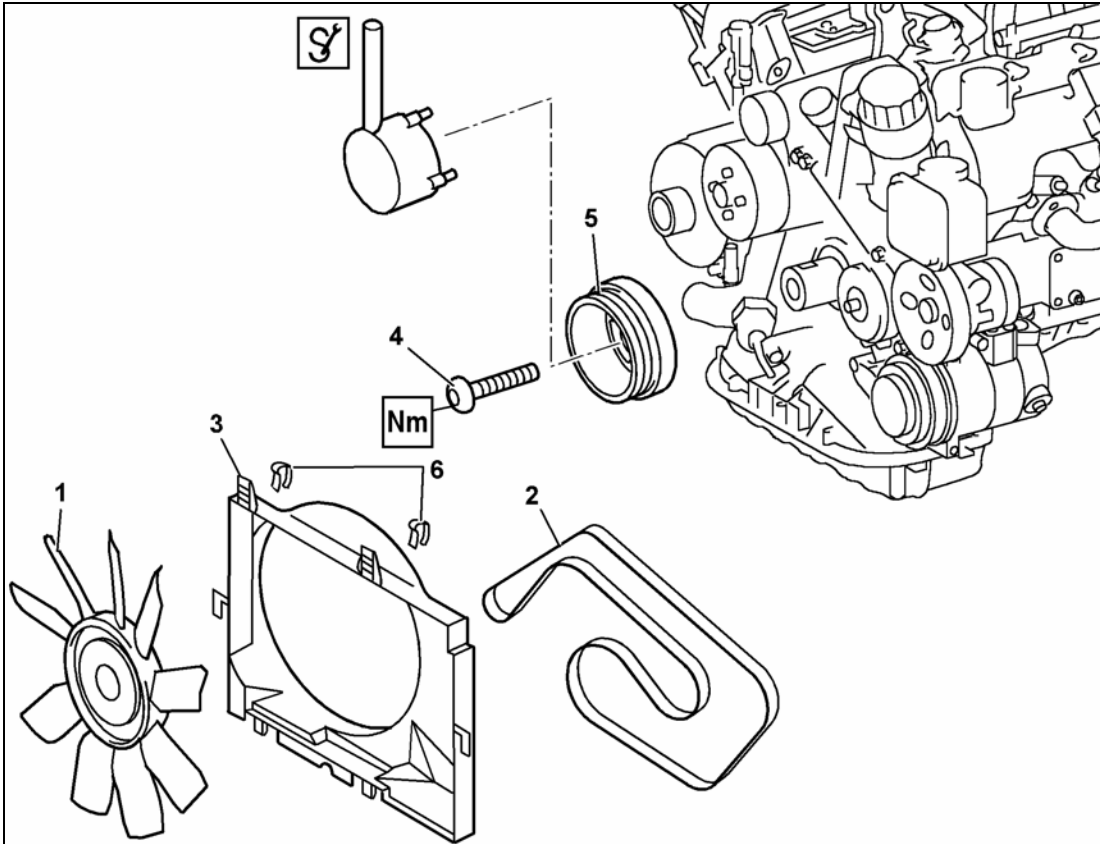

Figure 2
3. Remove viscous fan (1, Figure 2), refer to WIS: AR20.40-P-5660C.
4. Remove clips (6), remove fan shroud (3).
Do not counter hold crankshaft at ring gear to remove central bolt (4, Figure 2). Counter hold crankshaft **only** at spokes of the harmonic damper pulley due to high (harmonic balancer pulley) bolt (4) torque.
- Remove harmonic damper pulley bolt (4).
7. Remove harmonic balancer pulley (5, Figure 2).